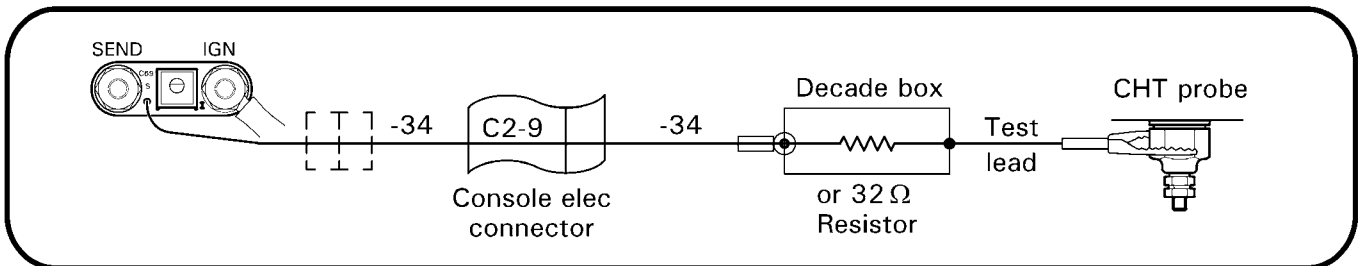

FIGURE 3
9. Refer to Figure 3. Adjust resistance decade box to 32 ± 0.4 ohms and verify resistance with multimeter. Alternately, a 32.0 ± 0.4 ohm resistor may be used instead of decade box. Connect a low-impedance (<1 ohm) test lead to one terminal on decade box and clamp opposite end of lead to hexagonal body of CHT probe; do not connect lead to center conductor of probe. Connect -34 wire to remaining terminal on decade box.